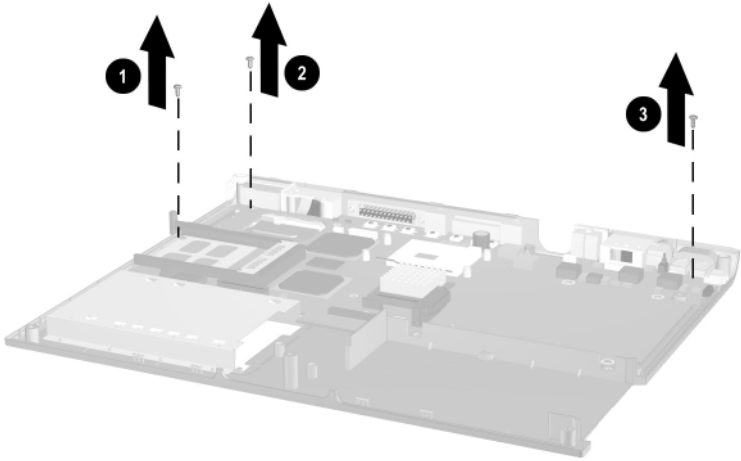

Figure 5-43. Removing the System Board Screws
- ❑ TM2.5 × 5.0 screw ❶ next to the PC Card assembly (Figure 5-43)
- ❑ TM2.5 × 5.0 screw ❷ next to the RJ-11 and RJ-45 connectors
- ❑ TM2.5 × 5.0 screw ❸ next to the audio connectors